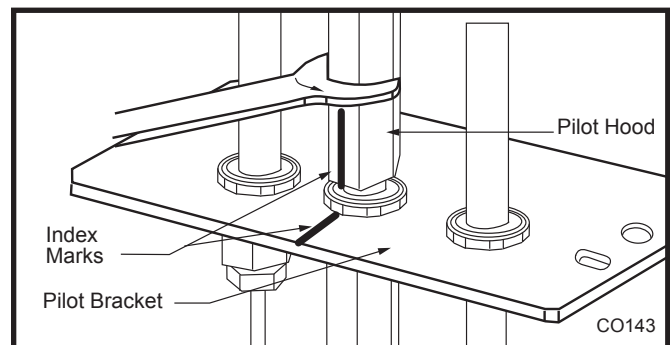

Fig. 70 Remove pilot hood. (Your pilot may have a different appearance.)
- Loosen pilot hood turning counterclockwise using a 7/16" wrench. (Fig. 70) **NOTE:** You may use penetrating oil to prevent pilot hood threads from seizing up.